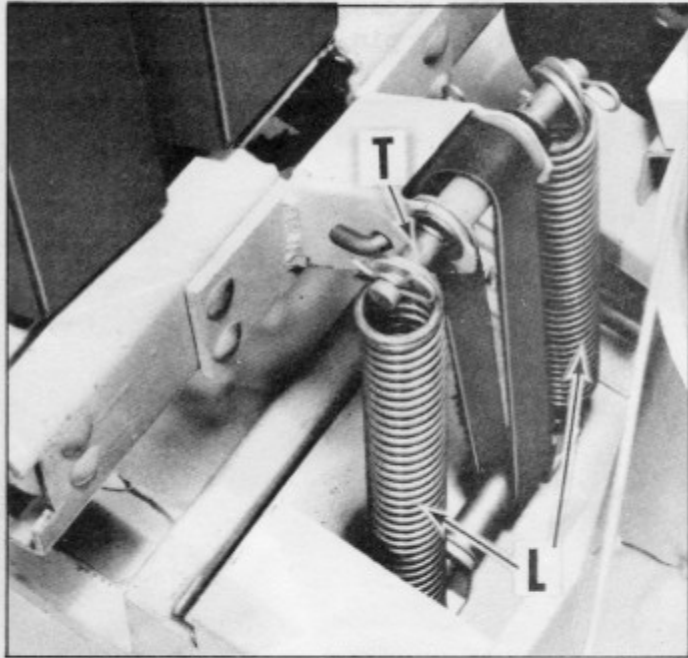

Fig. 6
Raise Snow Thrower to highest position with tractor lift. Attach springs (L) to lift yoke shaft (T). Place one washer on outside of each spring and secure with hair pin cotters (Fig. 6).